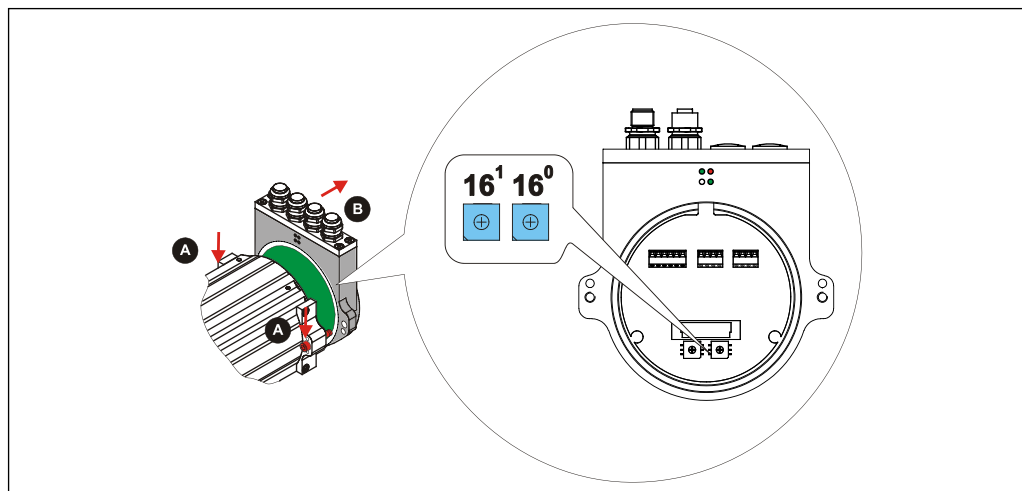

Figure 3: EtherNet/IP™ Node address, switch assignment
The Node address is adjusted by means of two HEX rotary switches. In order to be able to carry out the adjustment, the connection hood must be removed from the measuring system first. For this the screws (A) are loosened and the hood (B) is removed away from the measuring system see Figure 3.